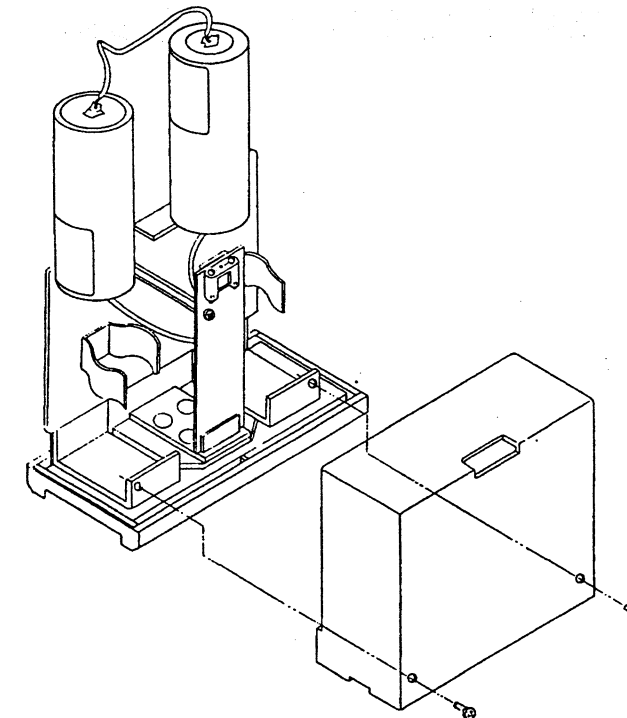

FIGURE 2
1. Remove the two screws on the Snap-Pack® cartridge housing as shown in Figure 2 below.